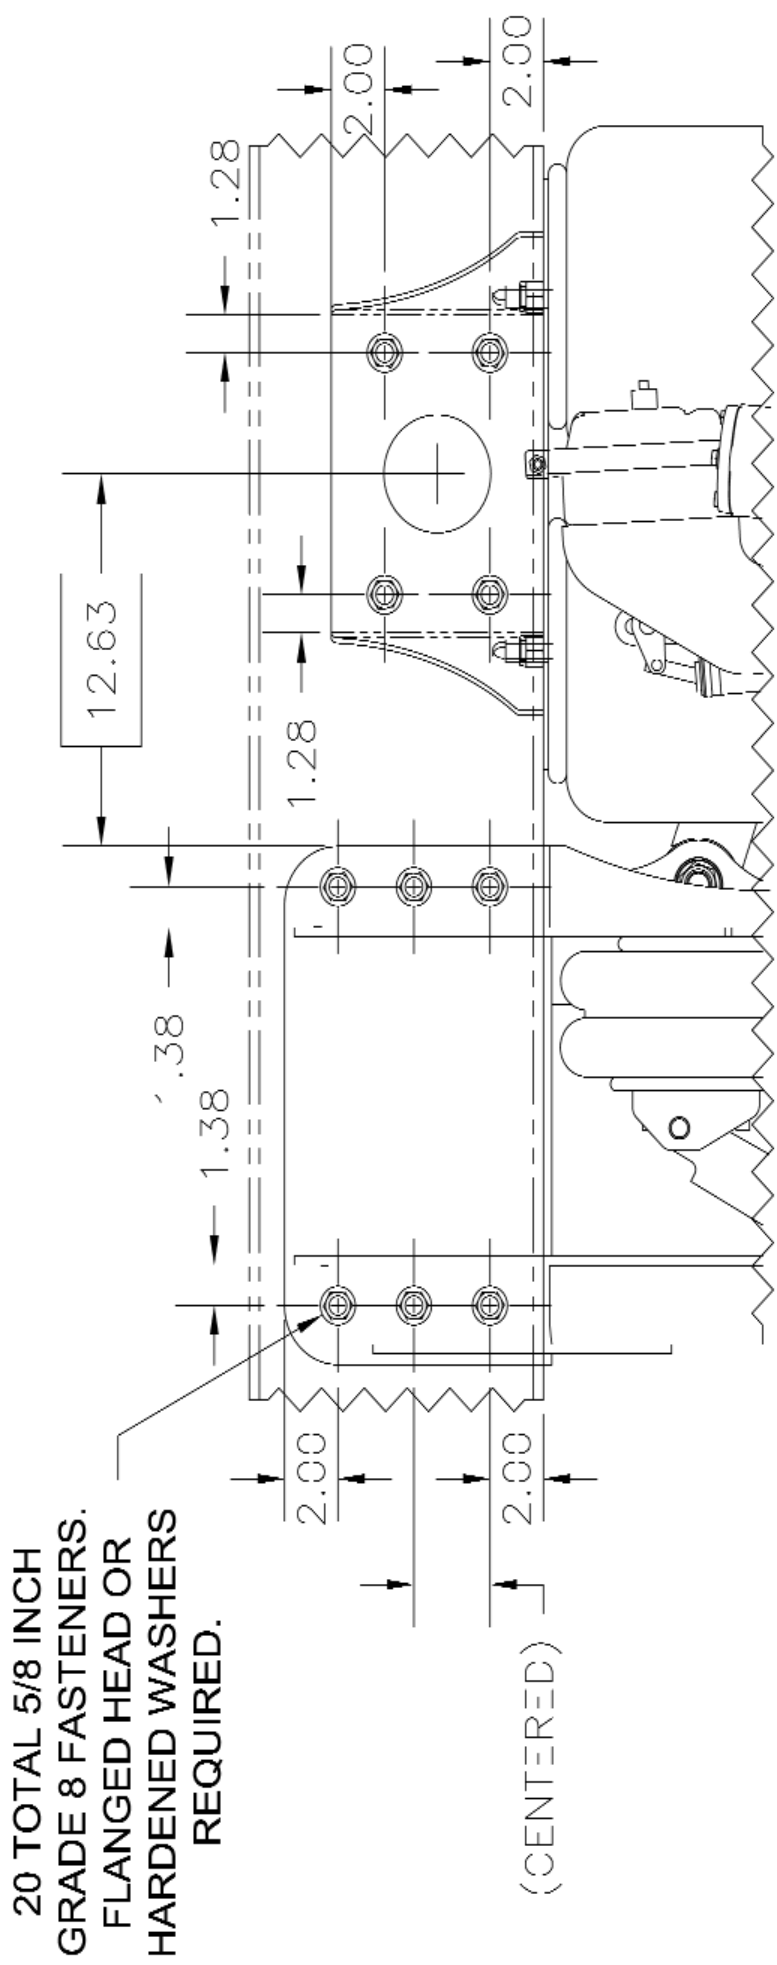

FIGURE 3
4. Center punch and drill 12 total 21/32 inch holes in the locations shown in **Figure 3**. If it is not possible to use the recommended bolt locations, the total number fasteners must be maintained. Spacing groups of fasteners apart as far as possible provides the greatest strength. Use caution when drilling near wires, hoses or other components located within the frame rail. Bolt the hangers to the frame with 12 total 5/8 inch grade 8 bolts and prevailing torque lock nuts. Hardened washers or flanged fasteners are required.
5. Locate the air spring plates at the dimension shown in **Figure 3** and clamp them firmly into place. The air spring plate must be in full contact with the bottom of the frame. Center punch and drill 8 total 21/32 inch holes in the locations shown in **Figure 3** and install 8 total 5/8 inch grade 8 bolts and prevailing torque lock nuts. Hardened washers or flanged fasteners are required.